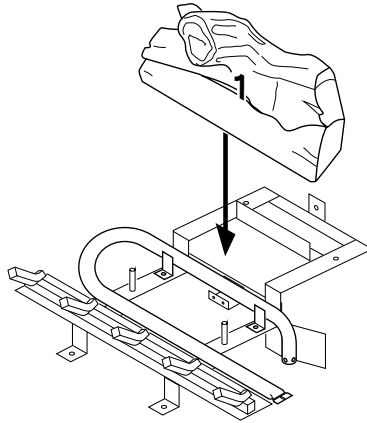

Figure 45 - Installing Log No. 1
2. Place log #1 (back log) on top of grate. Make sure the notches in the bottom of the log fit over the grate (see Figure 45).